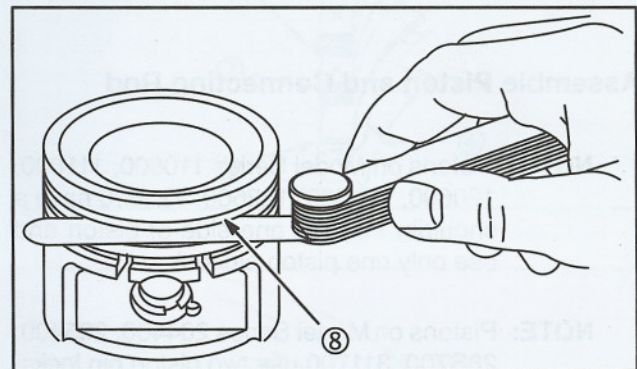

Fig. 6
2. Place a NEW ring (8) in groove, Fig. 6 and measure space between ring and ring land, Table No. 1, page 9.